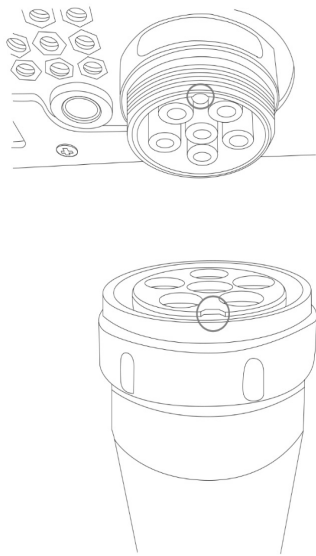

Figure 2: Alignment key on Bulkhead Connector
1. Attach Patient Valve (F) to VitaloROV/ROV+ device by screwing Patient Valve Bulkhead Connector (G) onto its component on back of device. The Bulkhead Connector alignment key should be in correct alignment to the connector on back of device (Figure 2). The Bulkhead Connector must be screwed on fully to ensure a leak-tight fit.